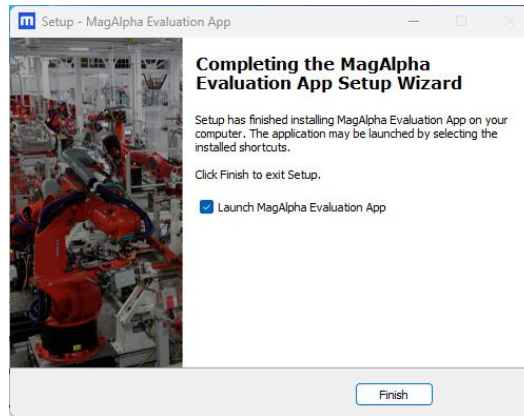

Figure 14: Installation Wizard (Complete)
7. Click “Finish” to end the installation and launch the application (see Figure 14).